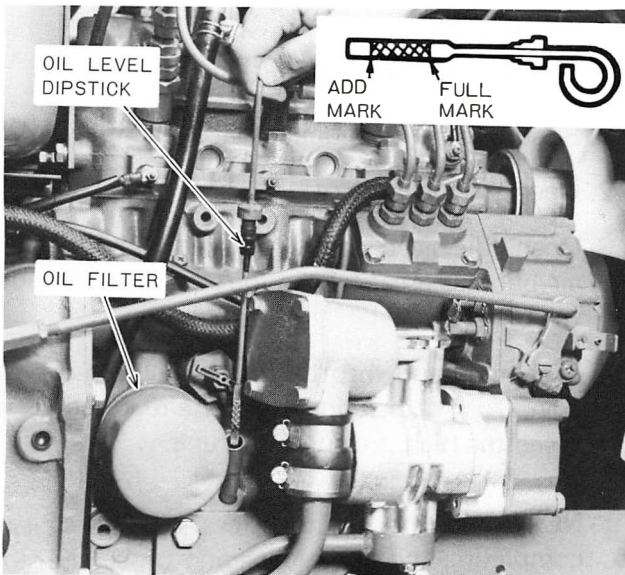

Figure 32 — Engine Oil Level Dipstick and Filter
1. With the tractor standing level, and after the engine has been stopped for a period of time, check the oil level with the dipstick, Figure 32.
2. Unscrew the oil filter, Figure 32, catching the used oil in a suitable container placed below the filter. Discard the filter.